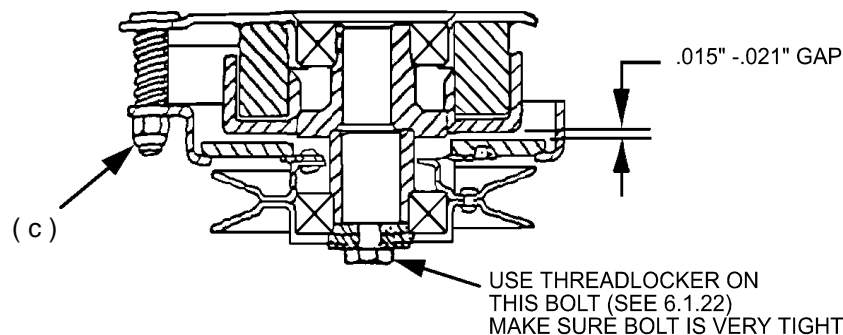

FIGURE 14
- c) Place .015-.021 inch feeler gauge through each of the three clutch gap holes. If gap exceeds this range, tighten the three adjusting nuts (c) until the proper gap is obtained (See Figure 14). The three clutch gap holes are located at the "nut side" of the adjusting bolts. The adjusting bolts can be identified by the springs surrounding each bolt.